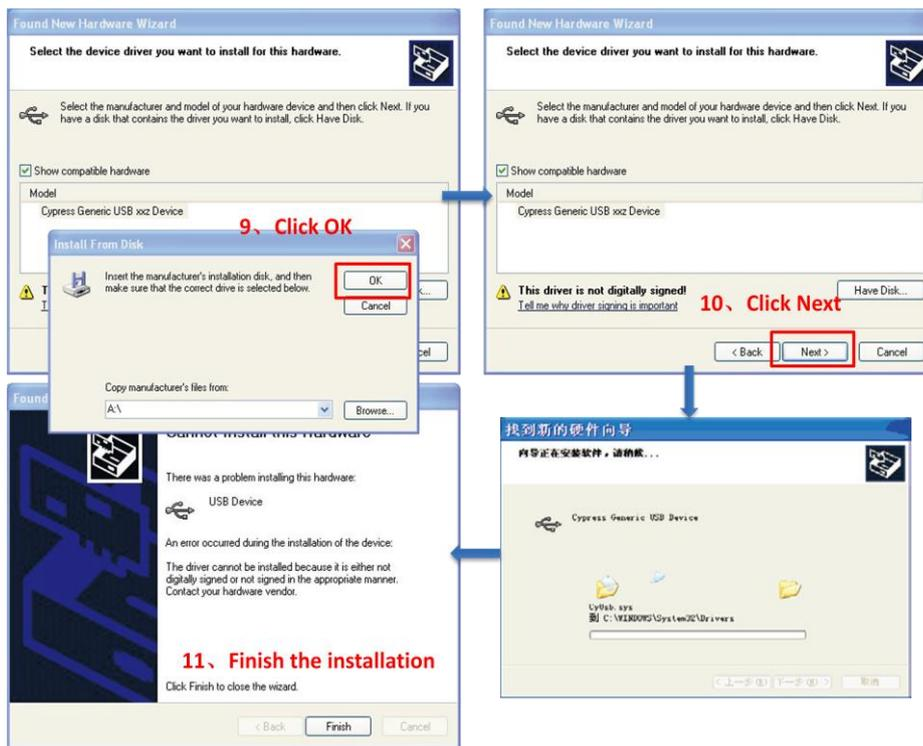

Figure 2.6 Driver Installation Steps
9. As shown in Figure 2.6, click ok to complete the above selection for driver files.
10. As shown in Figure 2.6, return to the "new hardware wizard", and click next;